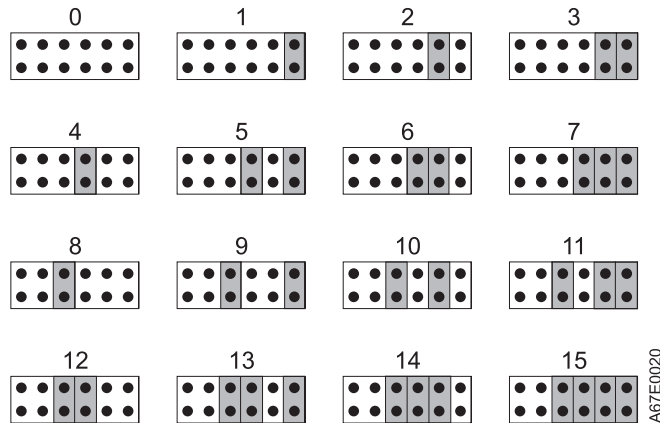

Figure 7. SCSI ID settings on the SCSI ID connector
3. Referring to Figure 7, find the ID number that you chose then place jumpers on the connector pins as shown (use a pair of needle-nose pliers to connect the jumpers to the pins that are shaded).
If the drive is being installed into a tape library, a command can be issued from the library to set the drive's SCSI ID through the LDI interface. Make sure that the SCSI ID is set to 15 (see Figure 7 on page 15). When configured to accept its SCSI ID through the LDI interface, the drive does not respond to SCSI commands until it receives a SET™ CONFIGURATION command through the interface.